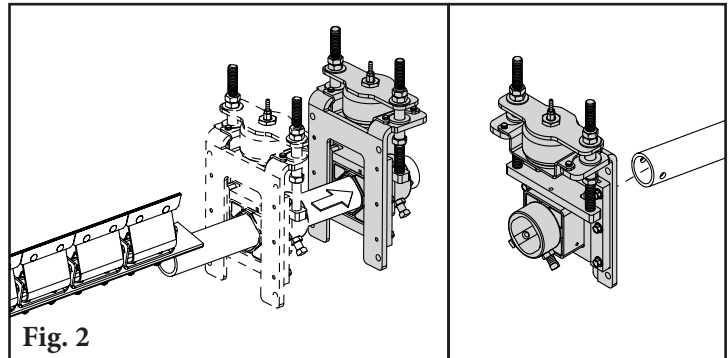

Fig. 2
2. **Install the pole.** Slide the pole into one torsion pole mount as far as needed and locate the other end into the opposite mount (Fig. 2). If there is not enough space, remove one of the mounting bases, slide the pole through the torsion pole mount, and remount the base.
2. **Disassemble upper mounting plate and air bag.** Remove and save bushing nut. Remove and discard upper mounting plate. Remove (unscrew) and save air bag, threaded insert and support plate (Fig. 2).